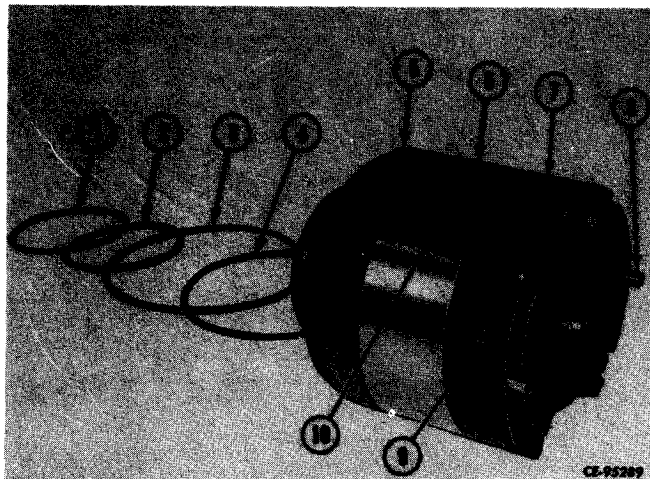

Figure 11-19
Remove "O" rings (2 and 3, Fig. 11-19) and back-up rings (1 and 4) from cartridge.
Place rotor on pressure plate (5, Fig. 11-19) with arrow on rotor pointed in correct direction of rotation (10). Place inserts in vanes and install assembly in rotor slots. Be sure sharp edges are toward direction of rotation.
Install new "O" rings (2 and 3, Fig. 11-19) and back-up rings (1 and 4) after lubricating them with petroleum jelly.